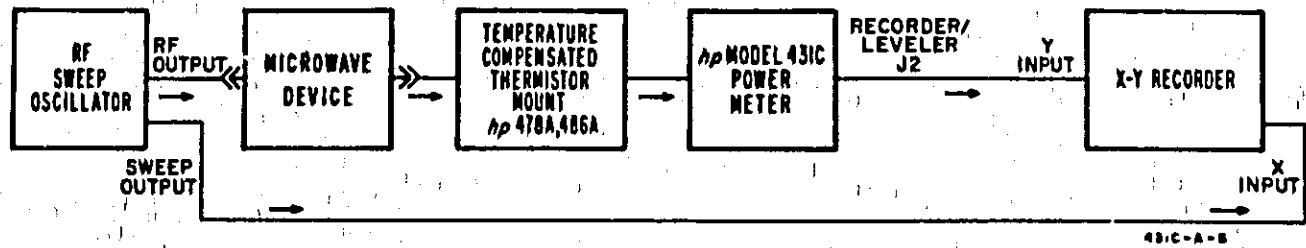

Figure 3-6. Insertion Loss or Gain Measurement
**3-56. INSERTION LOSS OR GAIN.** Figure 3-6 shows a block diagram of a system to determine insertion loss or gain as a function of frequency. Initially, the device to be tested is not connected into the system and the thermistor mount is connected directly to the sweep oscillator output. Variations in power amplitude are measured by the power meter as the frequency range of interest is swept by the sweep oscillator. This is a reference measurement and is recorded by the X-Y recorder. The device to be tested is then inserted between the sweep oscillator and the thermistor mount. Power amplitude versus frequency is again measured and recorded. The difference between the second reading and the reference, at any frequency, is the insertion loss or gain of the device at that frequency.